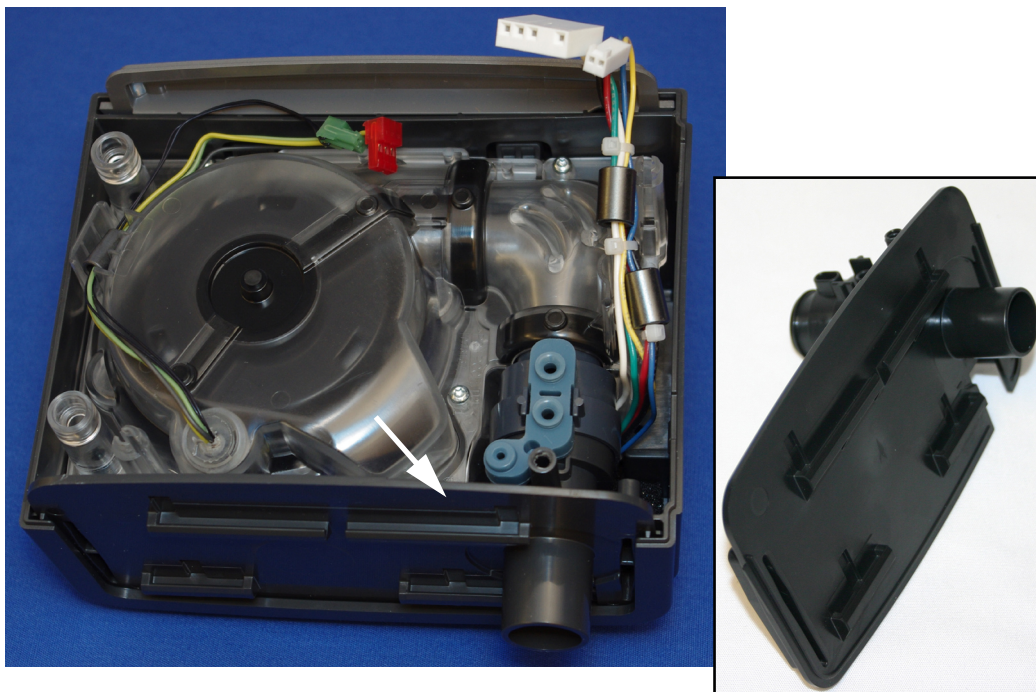

FIGURE 6-16: RIGHT PANEL ASSEMBLY
2. Place the Flow Manifold onto the Right Panel Assembly as shown in Figure 6-16.